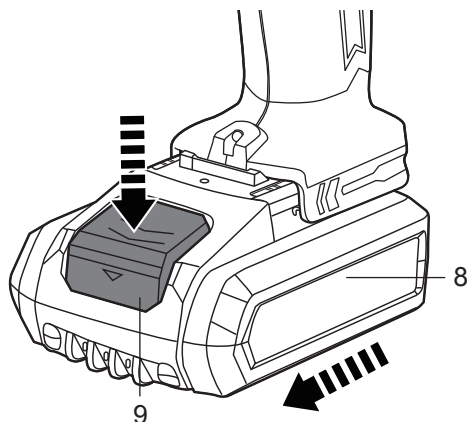

Fig. 2
- > Lock the ON/OFF switch (6) to avoid accidental starting by moving the forward / reverse rotation control (5) into the middle position (see section "Product functions – Forward / reverse rotation control").
- > To remove the battery, press the release button (9) and pull out the battery pack (8) from the product (Fig. 2).